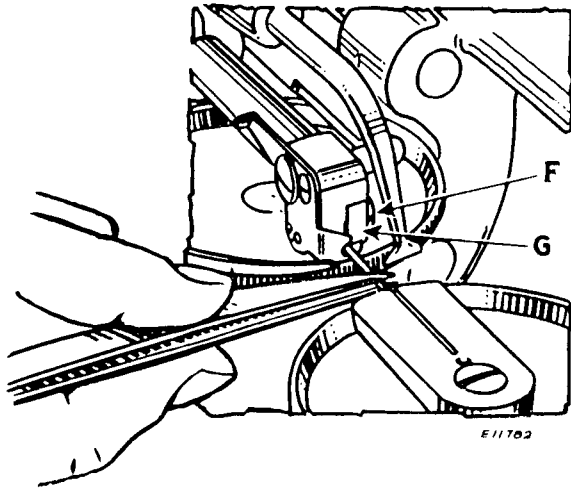

FIG. 6. INSERTING A NEEDLE
Holding the needle in tweezers with its short groove up, place it into the needle groove in the needle bar, under the clamp (G, Fig. 6) and push it back as far as it will go; then tighten the clamp screw (F).